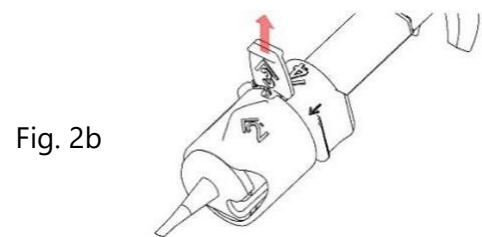

Fig. 2b
- Remove the red stopper indicated with '3' by pulling and discard it (Fig. 2b).